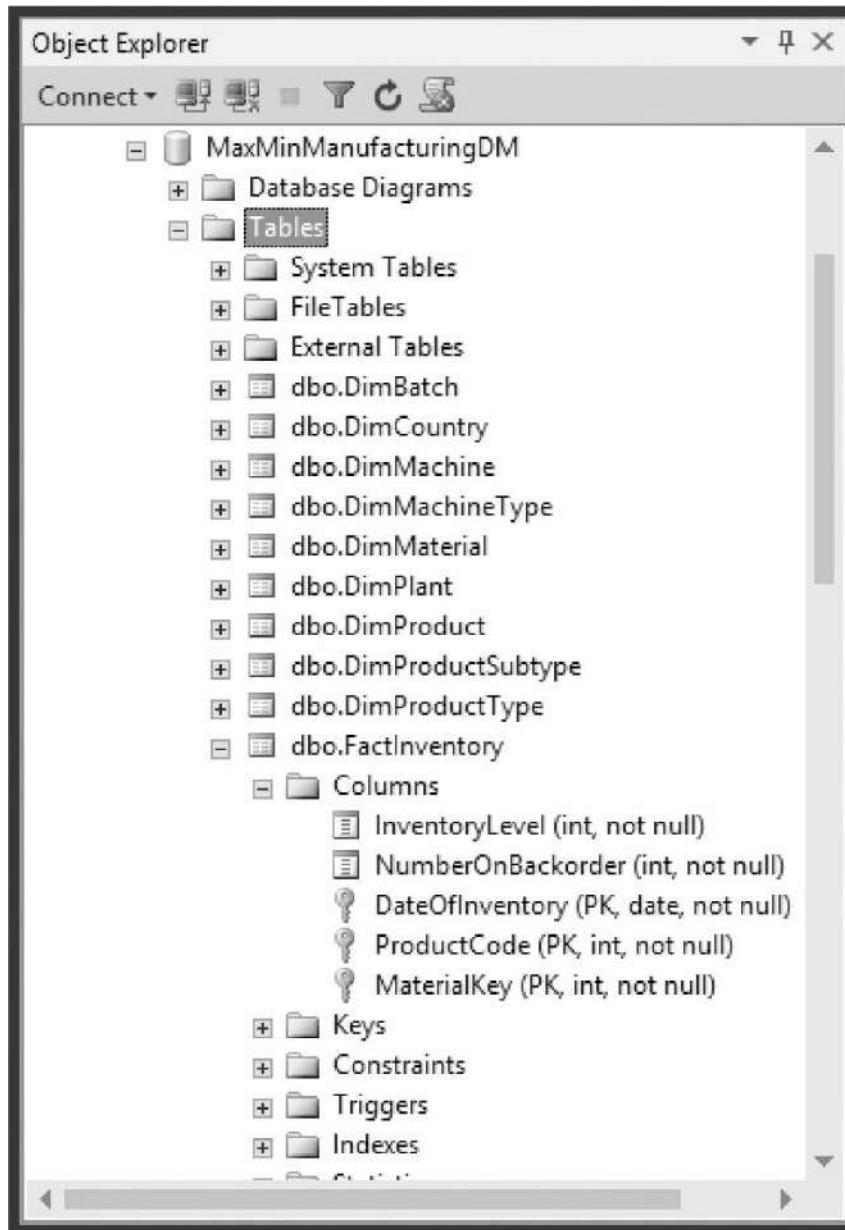

Figure 8-16 The *InventoryFact* table
8. Click the Save toolbar button to save this table design. The InventoryFact table should appear as shown in Figure 8-16 .